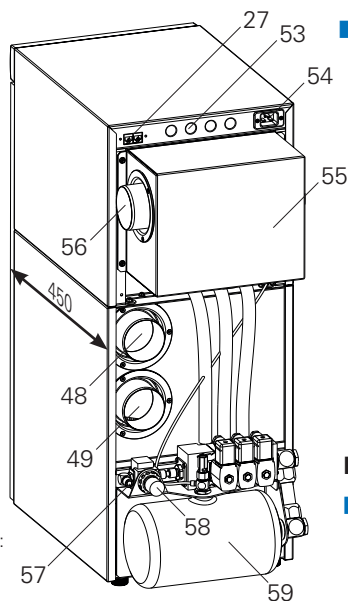

Fig. 4:
- Ensure that the connections are easily accessible from the backside or from the sides, especially the right-side of the suction unit. Partition walls of furniture units must be recessed from a depth of 450 mm to the rear, see Fig. 4.